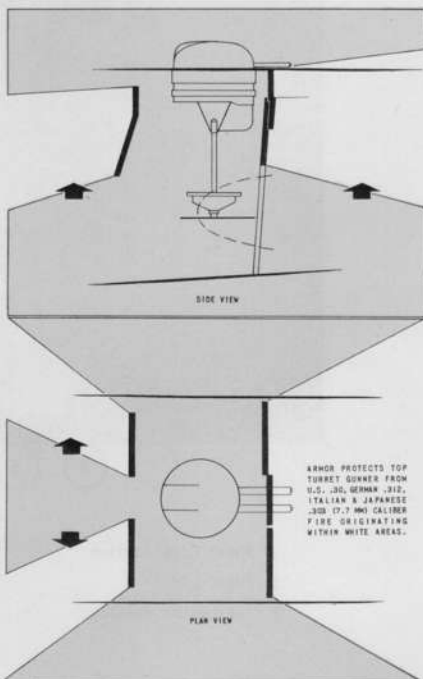

Figure 69 - Angles of Armor Protection - Top Turret
d. Armor Protection. - The aerial engineer (turret operator) is protected from enemy fire by armor plate on the bulkhead between the turret compartment and the bomb bay. See figure 69 for angles of protection.